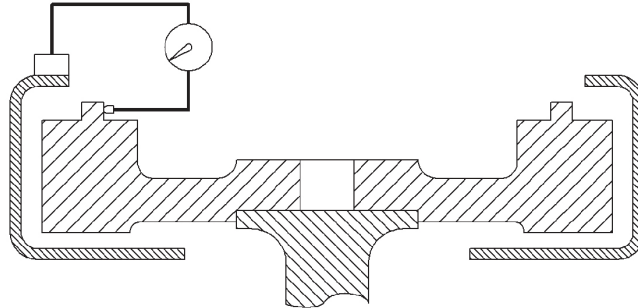

Figure 8. Checking the Flywheel Pilot Ring Bore Eccentricity
6. With the indicator mounted as in the paragraph above, adjust the indicator tip so that it will ride on the driving ring pilot bore of the engine flywheel. Rotate the flywheel. The driving ring pilot bore eccentricity of the engine flywheel should not exceed 0.13 mm (0.005 in) maximum total indicator reading. Thrust on the flywheel should be in one direction at all times to obtain a correct reading. See Figure 8.